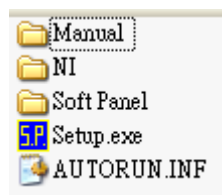

Figure 2-9 Files in CD
6. The CD contains the files shown in Figure 2-9 in which the **“Manual”** directory has the user's manuals of both English and Traditional Chinese version in PDF format for selection.